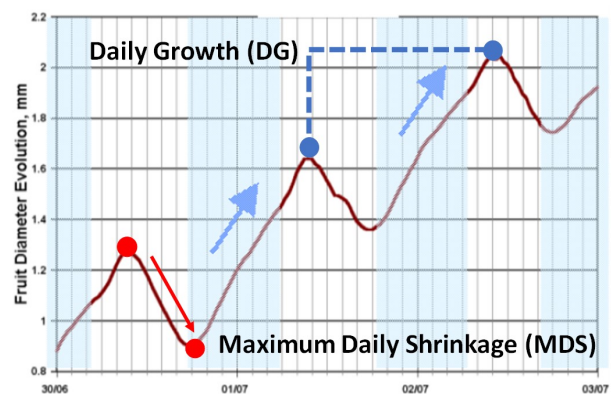

Figure 2. DG and MDS explained.
Two useful ways to view dendrometer data are Daily Growth (DG) and Maximum Daily Shrinkage (MDS) (Figure 2).